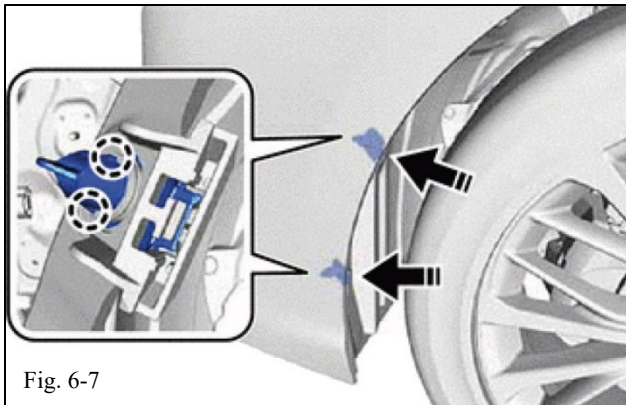

Fig. 6-7
- (j) Engage the (4) claws to install the 2 pin hold clips as shown in the illustration (Fig 6-7).